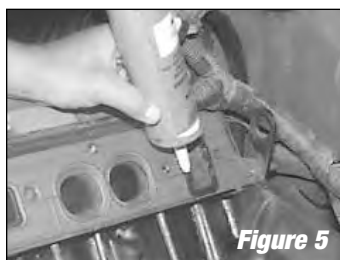

Figure 5
1. With the intake gaskets in place, apply a small amount of RTV High Temp silicone sealer around the water passages on the intake manifold side (**See Figure 5**).